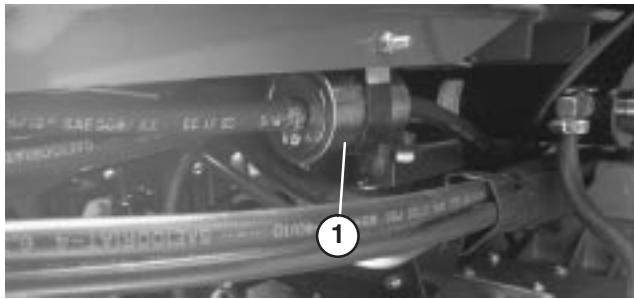

Figure 34
1. Clamp both fuel lines that connect to fuel filter (Fig. 34) so gasoline cannot drain when lines are removed.
2. Loosen hose clamps (Fig. 34) at each end of filter, pull fuel lines off and discard filter.